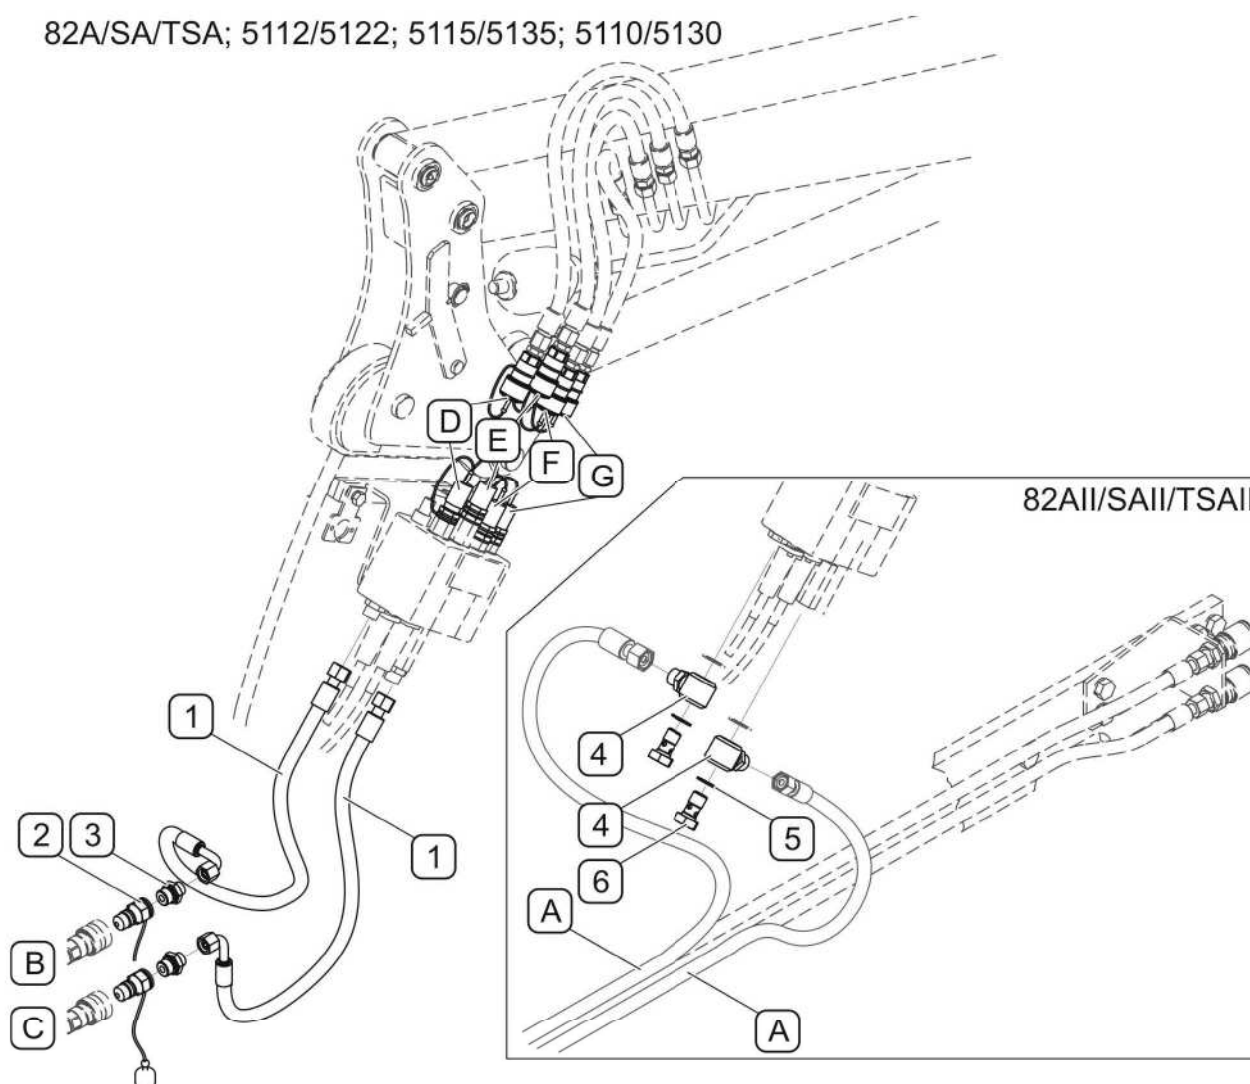

FIG. 4.9A Connecting selective control valve to hydraulic system (5112/5122; 5110/5130; 5115/5135; 82A/SA/TSA; 82AII/SAII/TSAIL)
Connect selective control valve using flexible conduits to appropriate quickcouplers (E) and (F) (FIG. 4.9A) of tractor hydraulic system. Loader hydraulic system is connected to selective control valve using quickcouplers (A), (B), (C), (D), marked with appropriate plug colours.